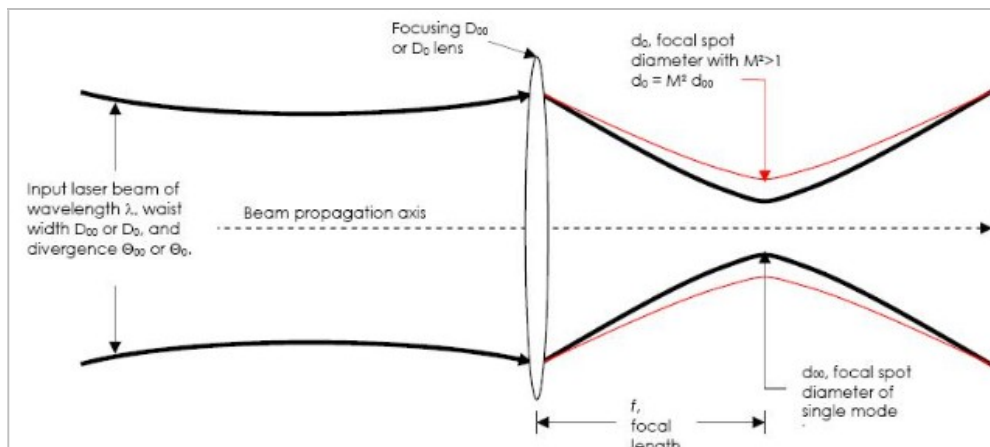

Figure 1. Characteristics of a laser beam as it passes through a focusing lens.
where  $D_{00}$  is the ideal focused spot diameter,  $f$  is the focal length of the lens, and is placed one focal length from the lens as shown in the Figure 1. However, when a distorted or multimode beam is focused, Equation (3) becomes: